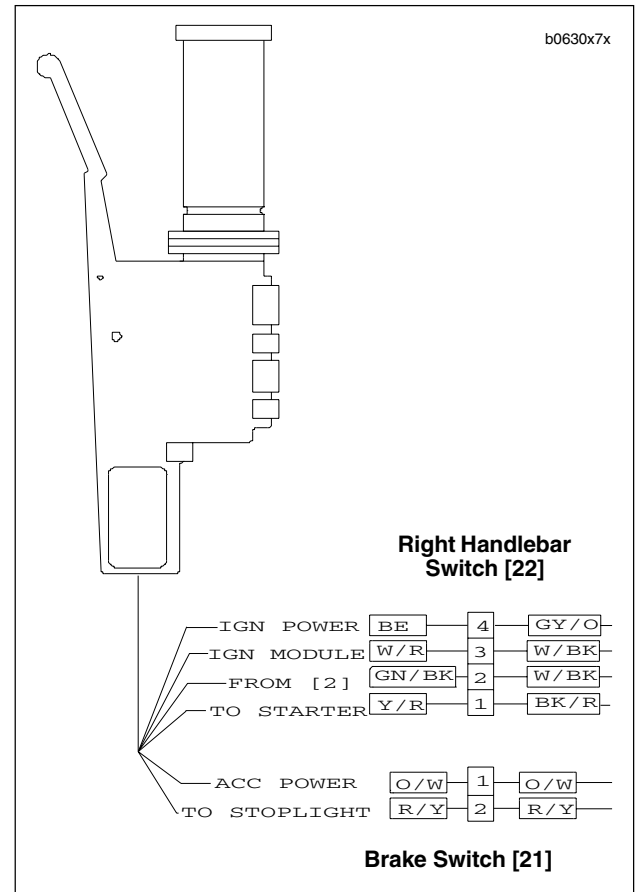

Figure 7-48. Right Handlebar Switch Connection
4. See Figure 7-48. Cut as many cable straps as necessary to access right handlebar switch connector [22] along right side frame tube. Detach connector [22] from wiring harness.